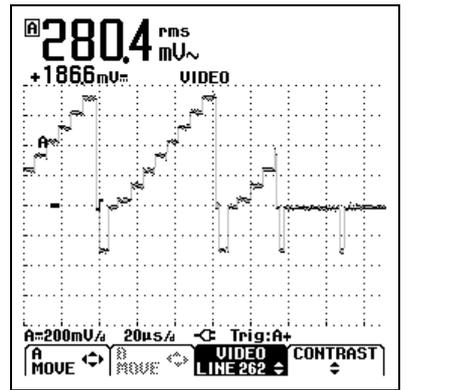

Figure 4-12. Test Tool Screen for NTSC line 262
- line number 262 for NTSC, see Figure 4-12.